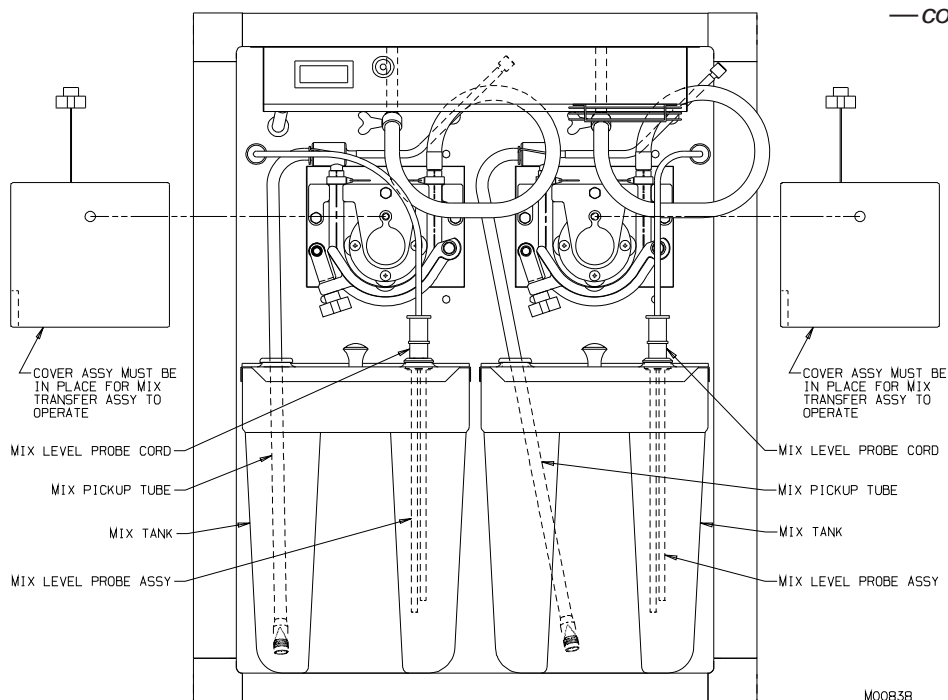

Figure 9-1
3. Disconnect the mix probe cords from the back of the refrigerated cabinet. See figure 9-1.